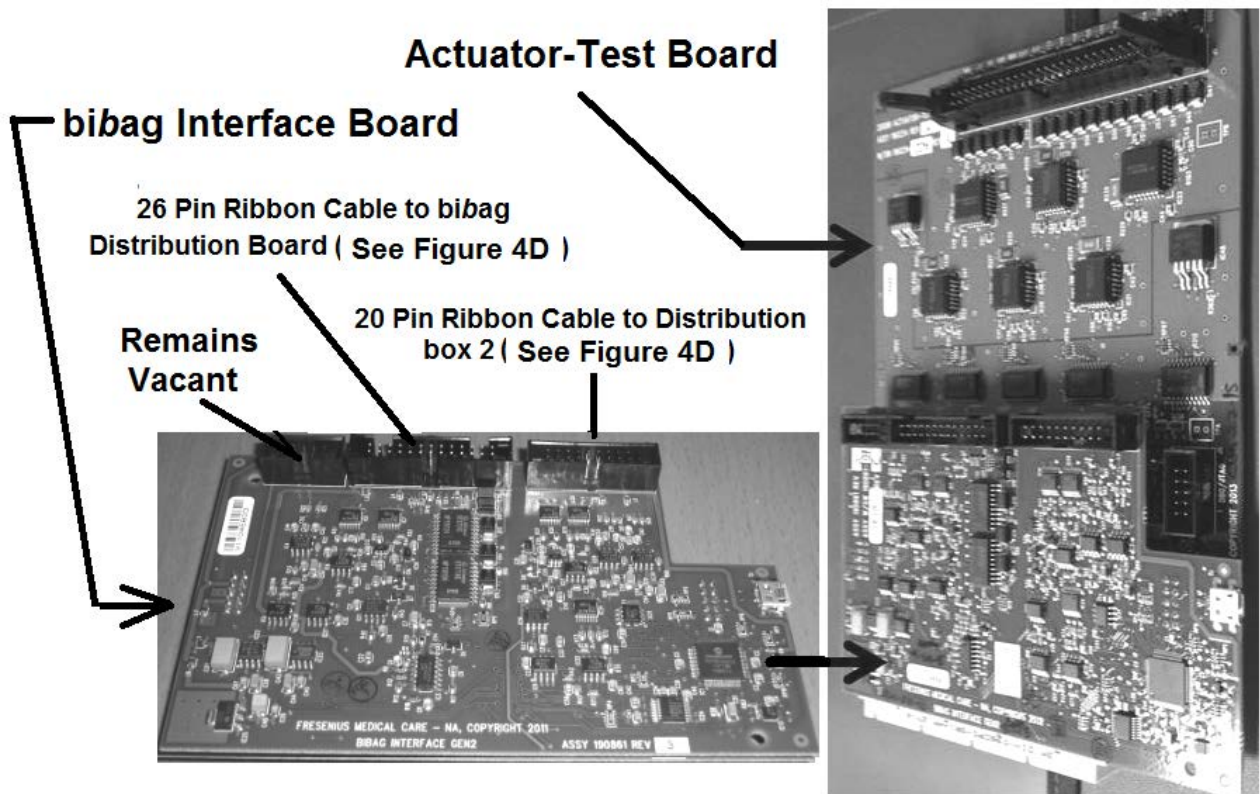

Figure 4C – *bi*bag Interface Board
- J1 26 Pin Ribbon Cable to bibag Interface Board. See Figure 4C (previous page).
J1 20 Pin Ribbon Cable to bibag Interface Board. See Figure 4C (previous page)